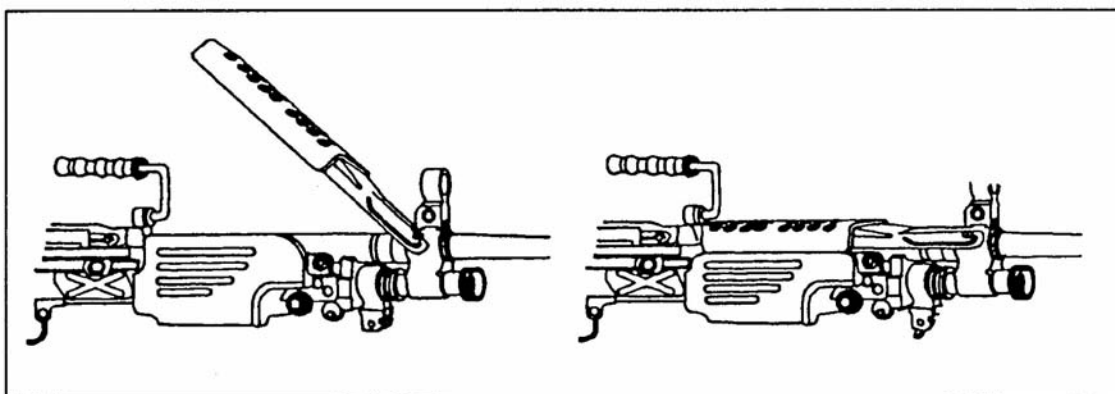

Figure 35. Replacement of the heat shield assembly.
- j. Replace the heat shield assembly (Figure 35).